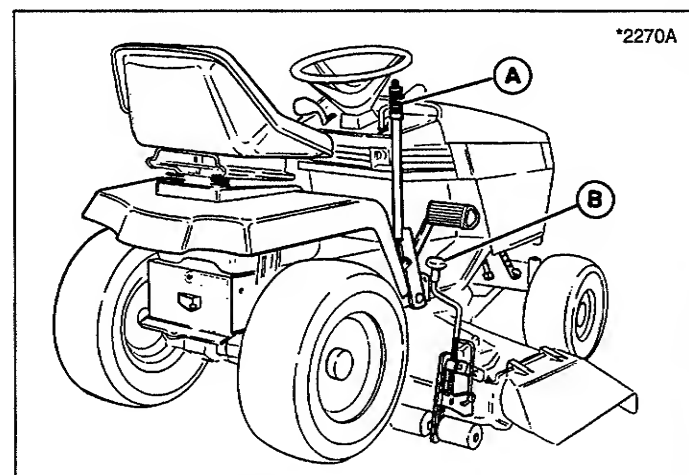
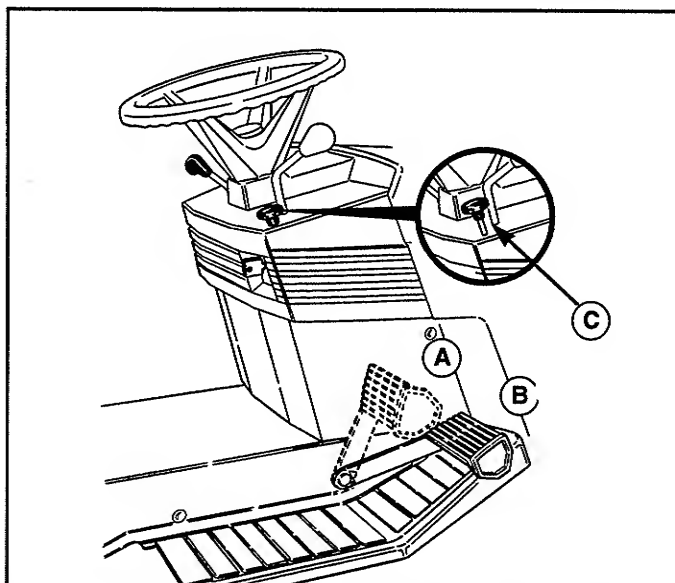
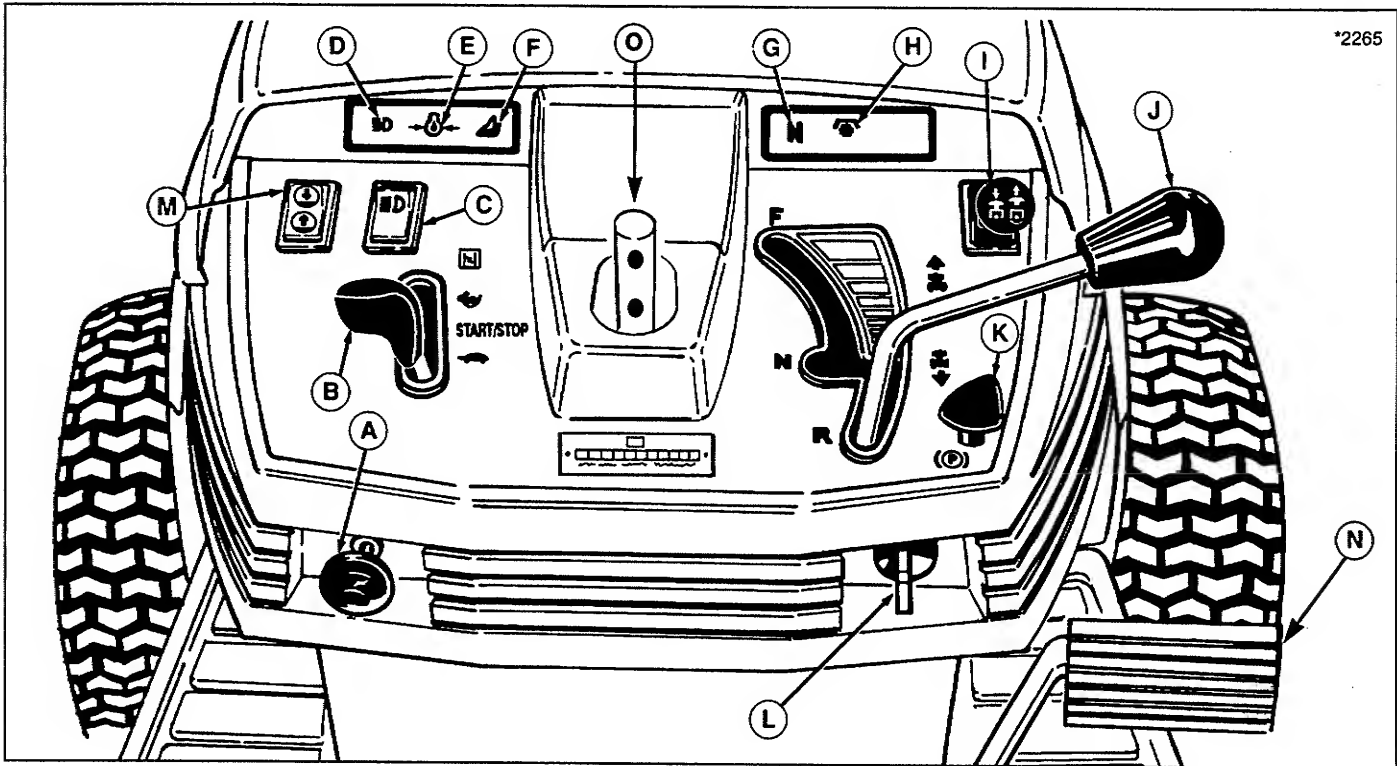

Figure 10. Mower Operation - Manual Lift
Figure 11. Clutch/Brake Pedal and Parking Brake (Brake Pedal Only - Gear Models)
Figure 13. Tractor Controls (Hydro Model Shown)
2. Place mower in the lowest cutting position using the mower height adjuster (B, figure 10). Place the mower lift lever (M, figure 2 or A, figure 10)) in the lowest position, also. Slide mower deck under right side of tractor so that mower hitch is aligned with front tractor hitch.
2. Place mower in the lowest cutting position using the mower height adjuster (B, figure 10).
3. Place the mower lift lever (A, figure 10 or M, figure 13) in the lowest position.
1. When traveling to or from the work site, fully raise the mower using the mower lift lever (A, figure 10 or M, figure 13). At the work site, lower mower using the lift lever.
2. Use the mower height adjuster (B, figure 10) to set the proper mowing height. See Mowing Patterns & Tips section for cutting height recommendations.
1. See figure 11. Depressing the pedal to position A disengages the transmission drive and, when in a forward gear, returns the transmission control lever to neutral. Fully depressing the pedal to position B applies the tractor brake.
2. Parking brake is applied at pedal position B when parking brake control knob (C, figure 11) is pulled up with pedal fully depressed.
2. See figure 11. Depressing the brake pedal from position A to B applies the tractor brake. Parking brake is applied at position B when parking brake control knob (C) is pulled up with pedal depressed.
Refer to figure 13.
On hydro models, ground speed is infinitely variable according to how far the control lever (J, figure 13) is moved in the forward or reverse position.
On gear models, ground speed is selected by depressing the clutch pedal and moving the control lever (J, figure 13) to the appropriate gear selection.
1. If you are ready to mow, lower the mower from the transport position using mower lift lever (A, figure 11 or M, figure 13) and set the mowing height using the
mowing height adjuster (B, figure 11).
2. Set the engine speed control lever (B, figure 13) for full speed.
3. Use the PTO switch (I) to engage the PTO.
4. Release the parking brake by depressing brake pedal (N, figure 13) and pushing knob (K) down.
5. On hydro models, move the ground speed control lever (J, figure 13) to the desired direction and speed of travel to set the tractor in motion.
6. Adjust engine speed control lever (B, figure 13) to the desired speed. Between 3/4 and full speed is recommended for mowing.
1. **On hydro models,** move the ground speed control lever (J, figure 13) into the NEUTRAL position to make a gradual stop. To make a more rapid stop, depress the clutch/brake pedal (N, figure 13).
On gear models, press the clutch pedal (N, figure 13) down to disengage the clutch for a gradual stop. For a more rapid stop, press the brake pedal down to apply the brake while also depressing clutch pedal to disengage the PTO. Move the ground speed control lever to NEUTRAL before releasing the pedals.
2. Engage the parking brake by fully depressing brake pedal and pulling up on parking brake knob (K, figure 13).
3. Use the PTO switch (I, figure 13) to disengage the PTO.
4. Set the engine speed control lever (B, figure 13) to 1/2 throttle setting and allow the engine to idle for 20 seconds. Stopping a hot engine too fast may cause engine damage.
5. Turn key (L, figure 13) to OFF and remove it.
1. With engine off and key removed, use the PTO switch (I, figure 13) to disengage the PTO.
2. Place the mower in the transport position (up) using the mower lift lever (A, figure 10 or M, figure 13).
3. Place the ground speed control lever (J, figure 13) in the neutral position.